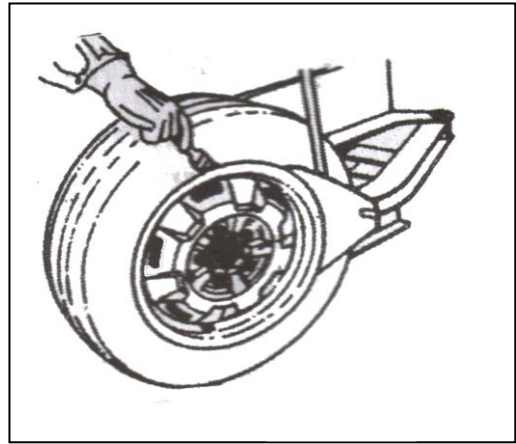

FIG 18
4.1.2 Place the tire between the bead breaking blade and tire pressing runner clog.(fig18) Then step down the tire press pedal to detach the rim from the tire(fig2-10 or 3-10). Repeat the same operation on the other parts of the tire to make the tire completely detached from the rim. Place the wheel with the tire detached from the rim on the turntable and step the clamp pedal (fig2-9; 3-9) to clamp the rim. You can select the outer clamp and inner clamp to clamp the wheel according to the different rim.